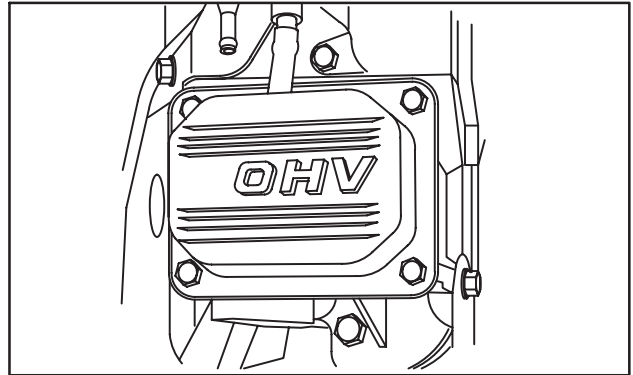

Fig. 19 – Install Valve Covers
- Install valve covers with new gaskets, Fig. 19.